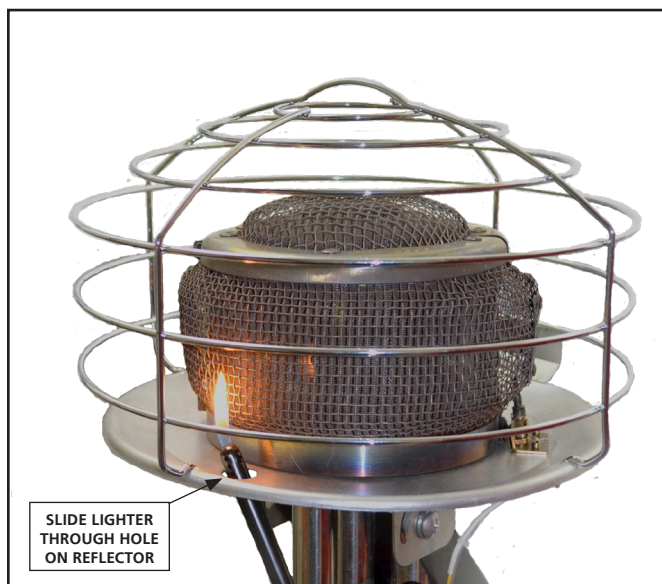

Figure 5
- D.** To light the MH540T, depress and hold the Safety Shutoff Valve. While holding the Safety Shutoff Valve button immediately light heater through the hole on the base of the reflector. Figure 5